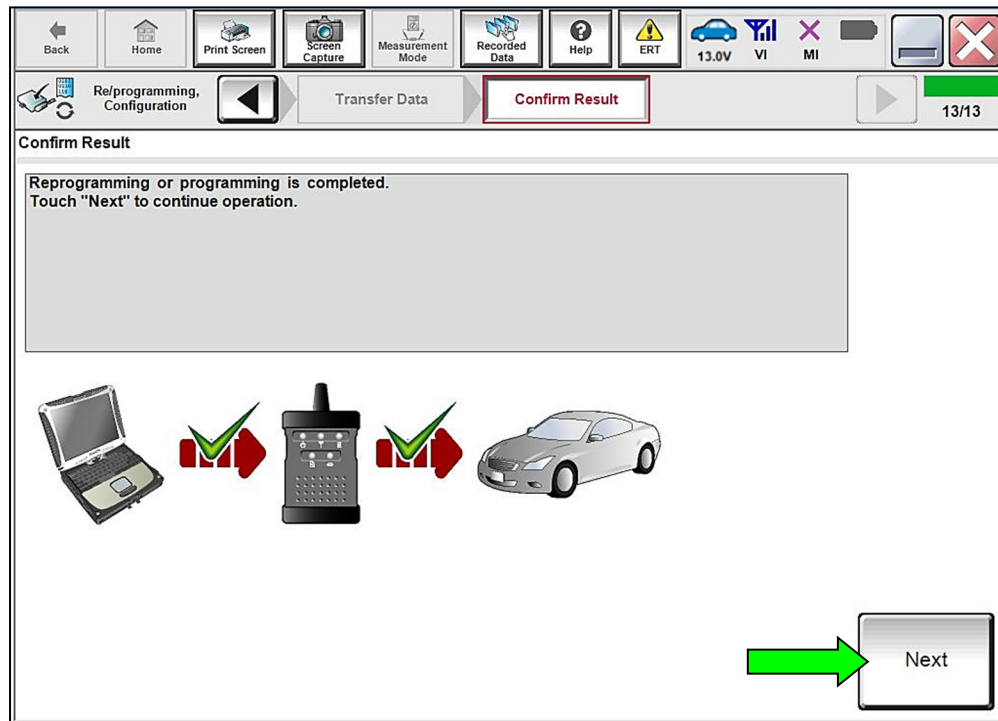

Figure 19
- If the screen in Figure 19 does not display (indicating that reprogramming did not complete), refer to the information on the next page.